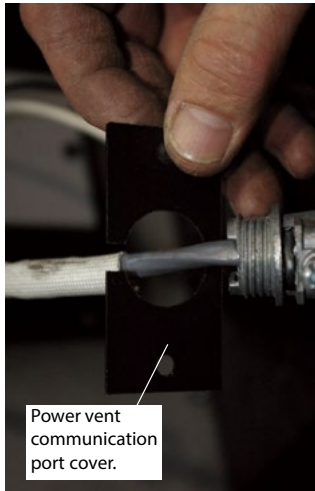

Figure 12c. Remove Exterior Access Cover.
Step 3. Remove the Power Vent communication port cover from cabinet, (as supplied) **Figure 12c**. (*Philips head screwdriver required*).